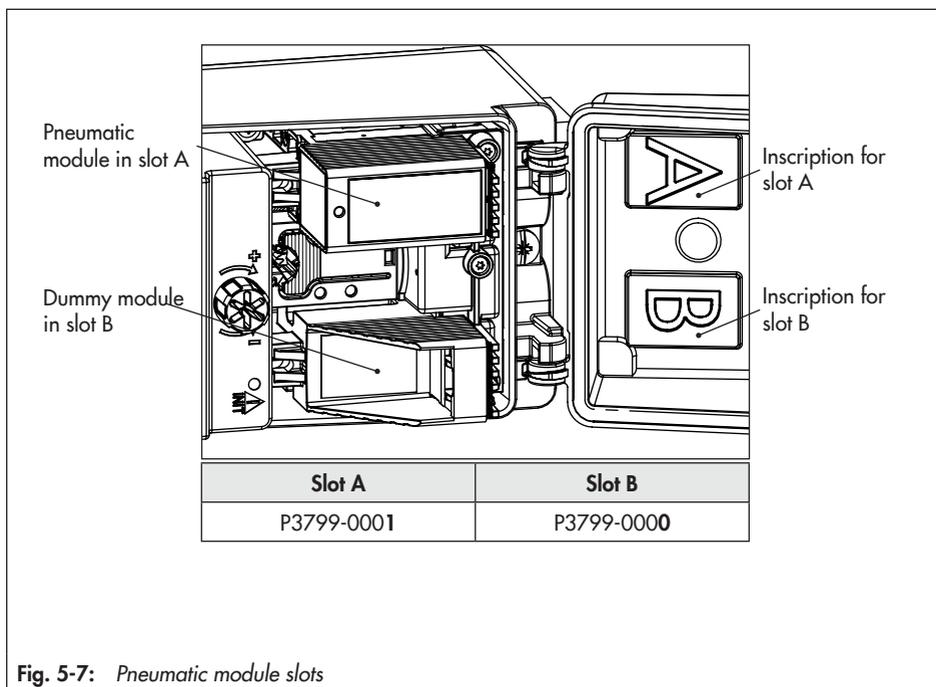

Fig. 5-7: Pneumatic module slots
Two slots are available for the pneumatic modules in the positioner (see Fig. 5-7).
1. Observe permissible combinations of pneumatic modules specified in Fig. 5-7.